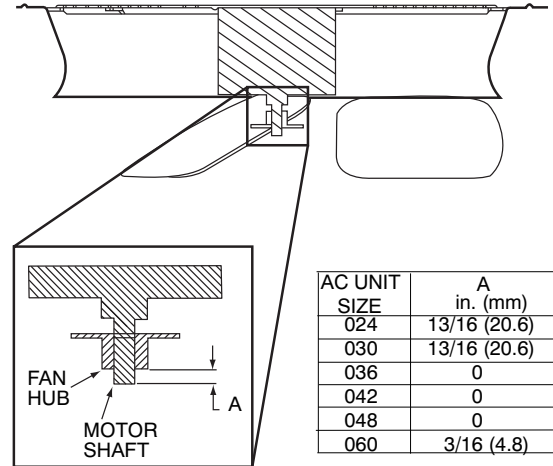

Fig. 19 – Outdoor Fan Adjustment
5. When replacing fan blade, position blade as shown in Fig. 19. Tighten setscrews.